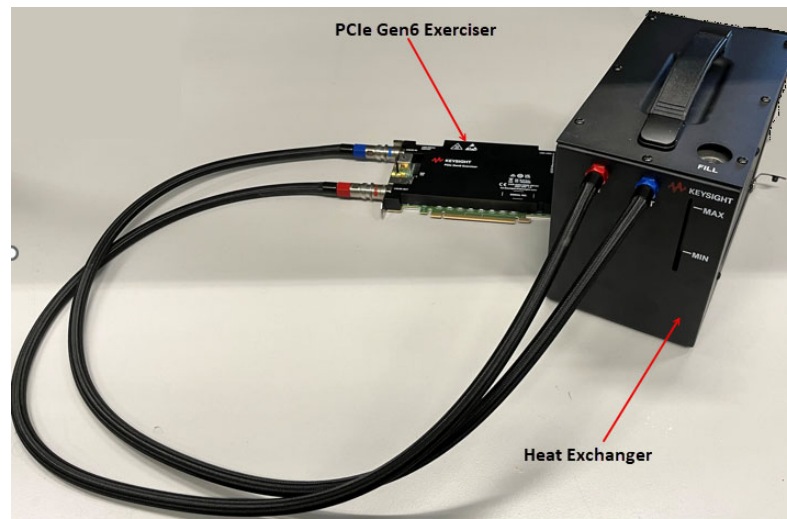

Figure 11 Connecting heat exchanger to the Exerciser/Analyzer module
- 1 Connect the empty heat exchanger to the Exerciser/Analyzer module as shown in Figure 11. Please Keep the heat exchanger tank opening on top of the device closed while connecting the hoses to the module.